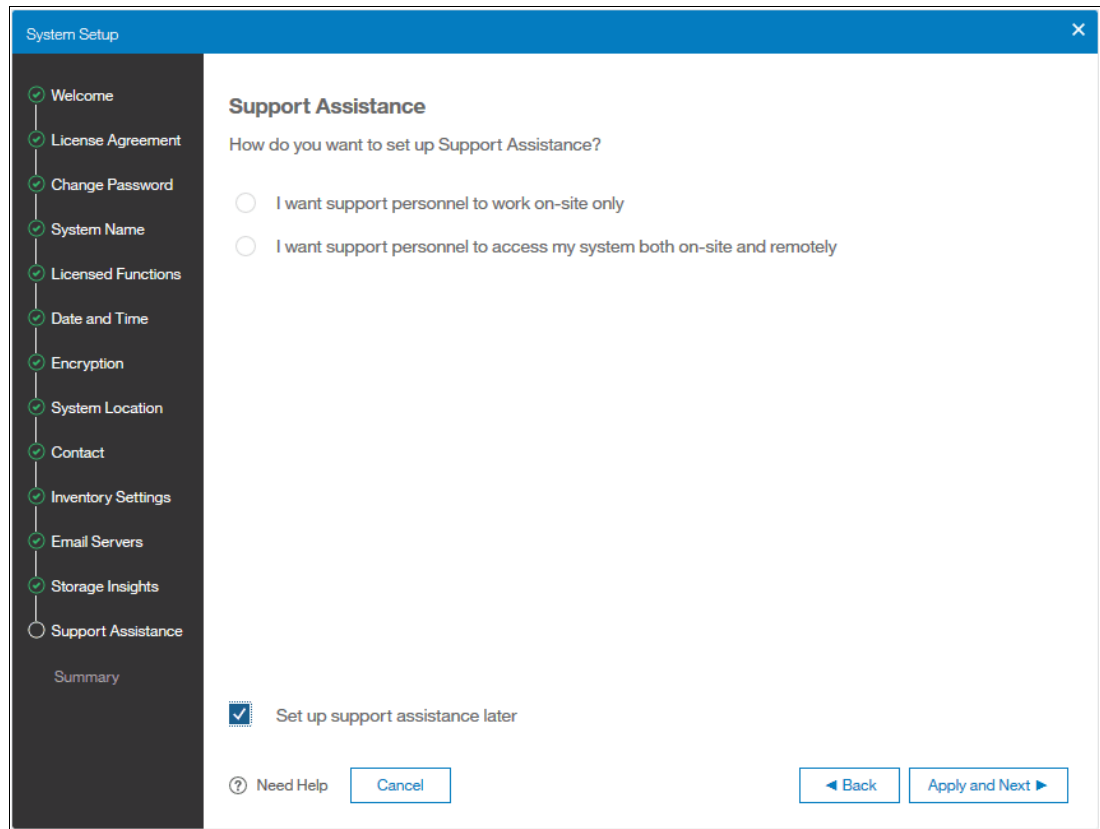

Figure 2-37 Initial setup: Support Assistance
18. The next window is used for setting up support assistance, if wanted, as shown in Figure 2-37.